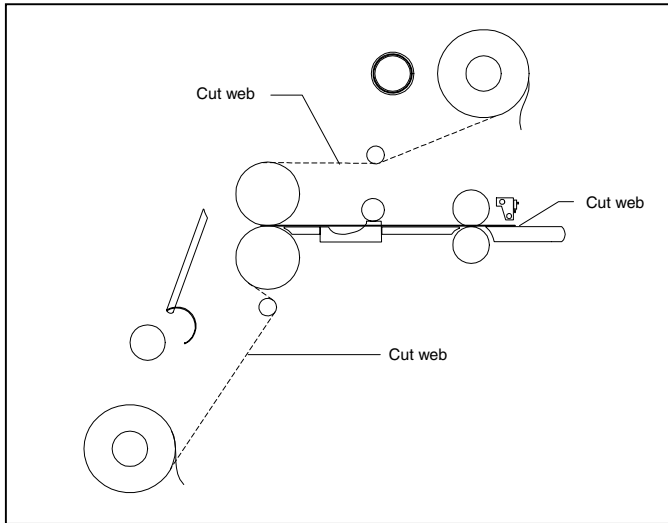

Fig. 33
1. Using the rear slitter, cut the output from the web (Figure 33).
4. Cut remaining top and bottom film webs between supply rolls and heat rollers (Figure 33). **Be careful not to cut any of the rollers!**